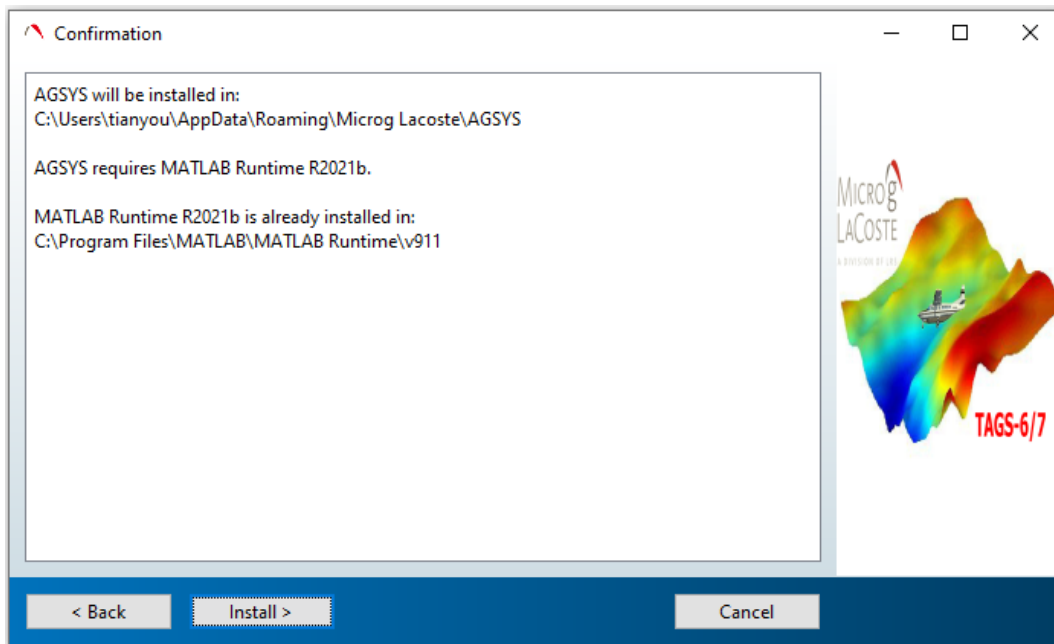

Figure 2-6 Confirmation Dialog
- The **Confirmation** dialog (Figure 2-6) displays the AGSYS and MCR installation location. If correct, click **Install** to begin the installation process.